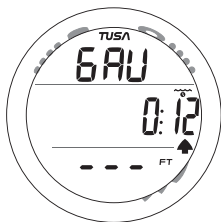

Fig. 91 - GAUG DV3 MAIN
**DV3 Main** information includes (Fig. 91) -